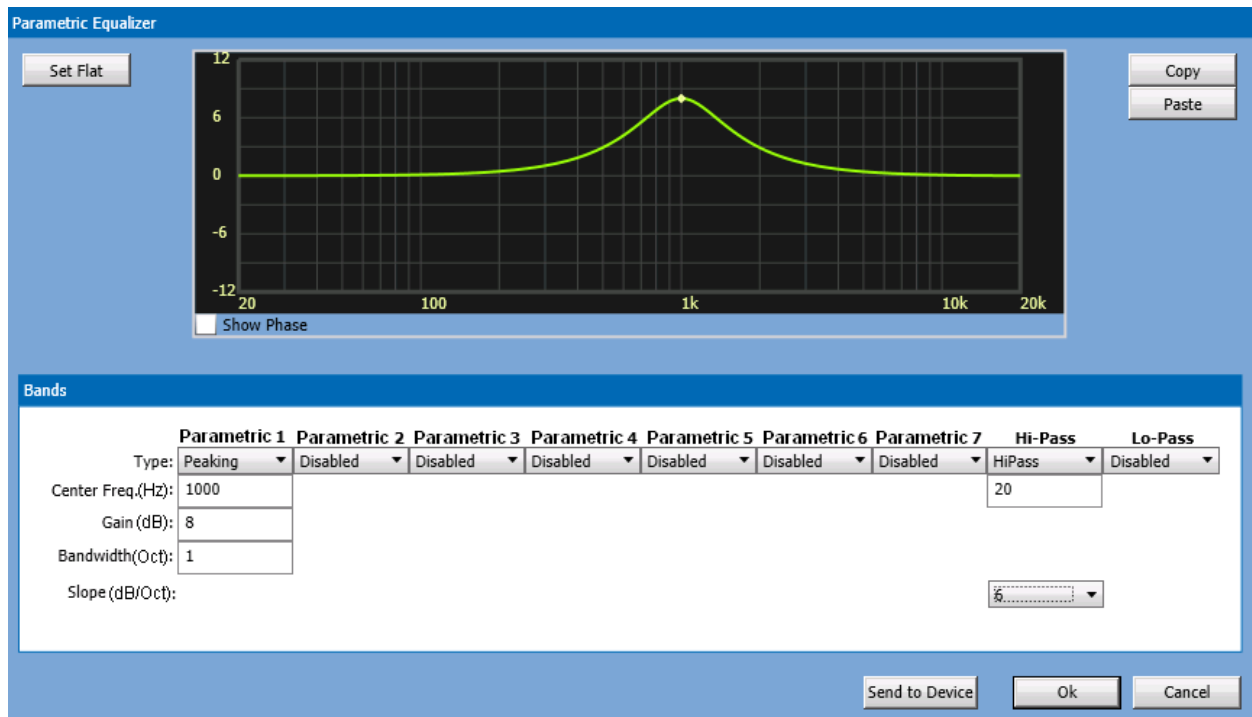

Figure 16-32: 5404DZM Equalization Setup Window
- Equalization** Call up the equalization setup window for this zone. See Figure 16-32 and text that follows for more on this window.